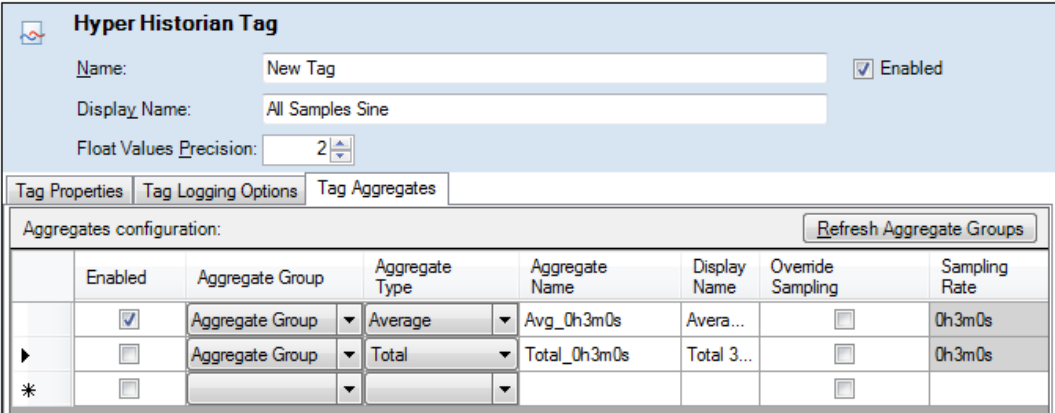

Figure L4.4 - Aggregates Defined for a Hyper Historian Tag
6. If you add an aggregate line that you don't want to use, leave its Enabled checkbox empty, as shown in the second line in Figure L4.4.